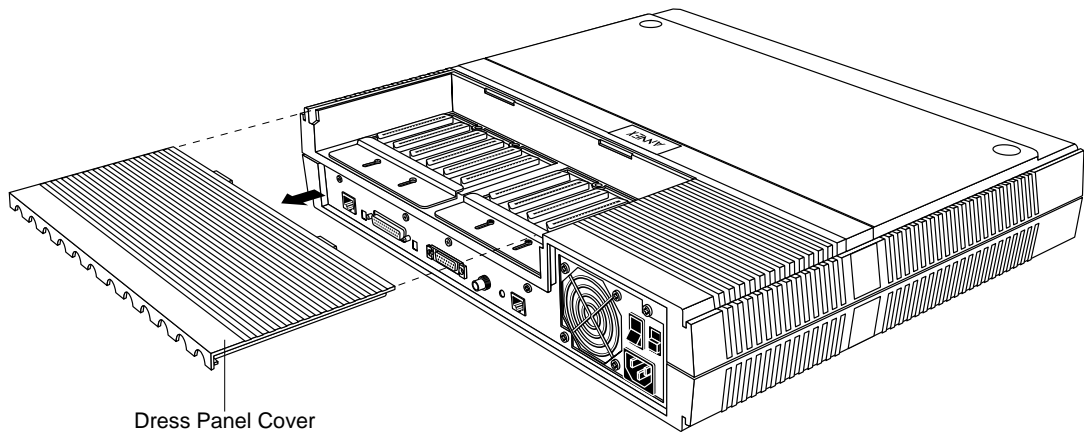

Figure 2-7. Removing the Remote Annex 4000 Dress Panel Cover
- 1 Remove the dress panel cover by sliding it forward. This cover is located on the top rear of the Remote Annex 4000 (see Figure 2-7).